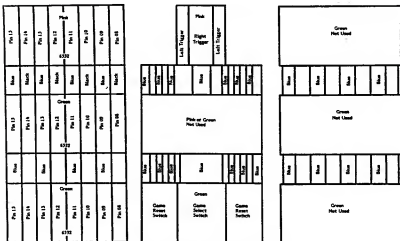

Figure 2-2. Diagnostic Matrix Screen
- With the blue shorting plugs removed the matrix of nine rectangles on the screen should look like Figure 2-2.